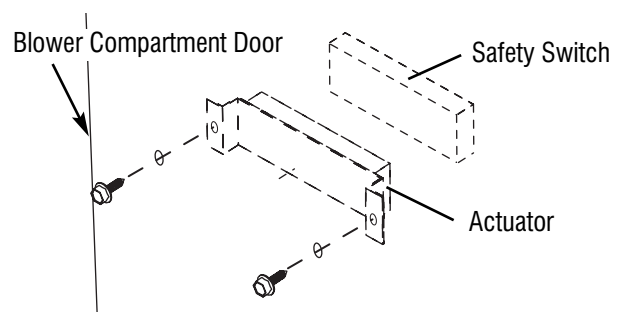

Fig. 11 Mount safety interlock actuator to access door.
2. Mount the safety interlock actuator to the access door using the included self drilling screws. (Fig. 11)